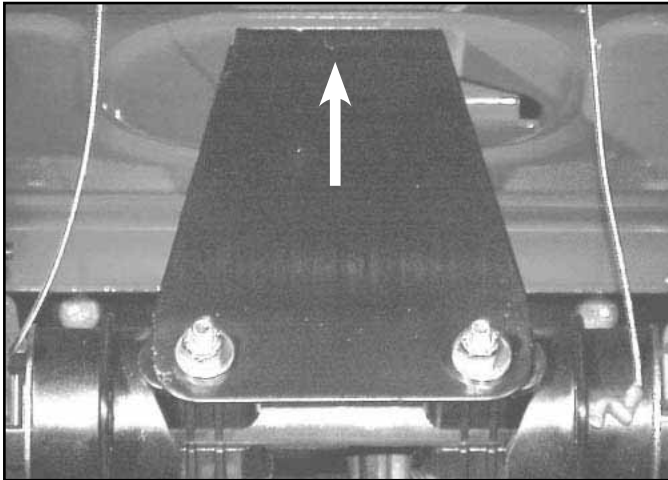

Fig 122
8. Unbolt upper end of shift brace from housing (Fig. 122 and 123).